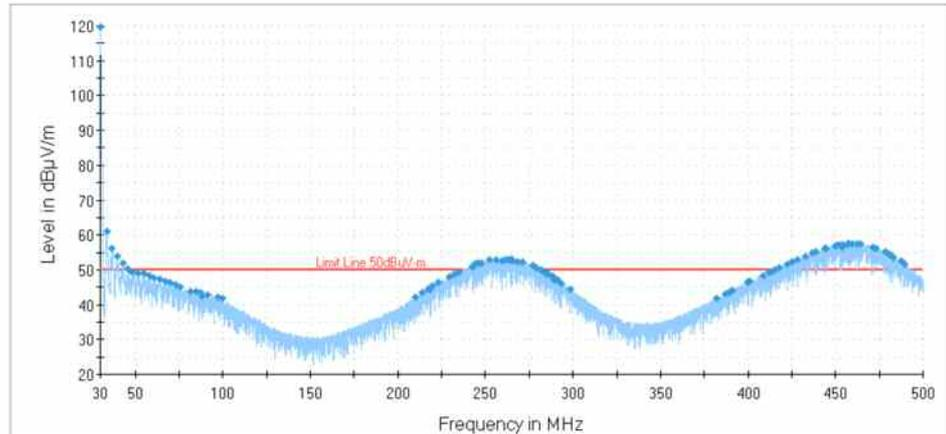

Figure 17: Peak Search with Maxima Limitation, Maximum Number of Results = 100
- Figure 17: Maxima Limitation: Maximum Number of Results = 100,